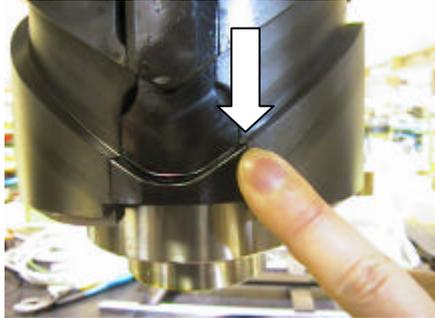

Figure 51
3. Adjust the slider height, so the leading edge top surface between the cylindrical cam and slider is smooth to the touch. See Fig. 51.